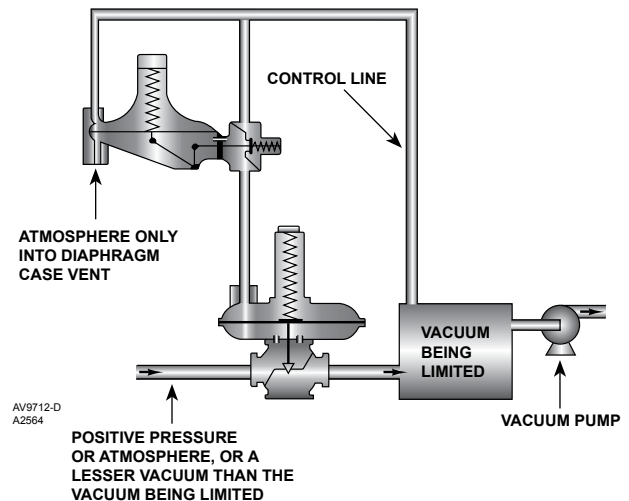

Figure 4. Type 66RR Relief Valve Installation in Vacuum Breaker System
5. For a Type 66RR relief valve used in a relief application, connect an upstream control line to the 1/2 NPT connection on the pilot diaphragm case (key 4, Figure 8). For other typical applications, piping arrangements are shown in Figures 4 and 5. Regardless of Type 66RR installation, the pipe plug (key 78, not shown) will have to be removed from the vent of the Type Y695RR pilot spring case (key 3, Figure 8).